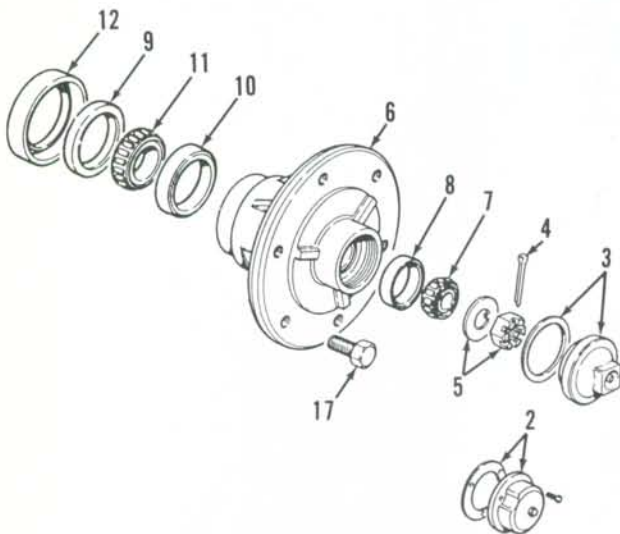

Fig. 4—Exploded view of wheel hub typical of two-wheel-drive models.
1. WHEELS AND BEARINGS. To remove front wheel hub and bearings, first raise and support the front axle extension, then unbolt and remove the tire and wheel assembly. Remove cap (2 or 3—Fig. 4), cotter pin (4), castellated nut (5), washer and outer bearing cone (7). Slide the hub assembly from spindle axle shaft. Remove dust shield (12), seal (9) and inner bearing cone (11). Drive bearing cups (8 and 10) from hub if renewal is required. Pack wheel bearings liberally with a multi-purpose lithium based grease. Reassemble by reversing disassembly procedure. Tighten castellated nut (5) to a torque of 80 N·m (60 ft.-lbs.), then back nut off to the nearest hole and install cotter pin (4). Be sure to install cap (2 or 3) securely.